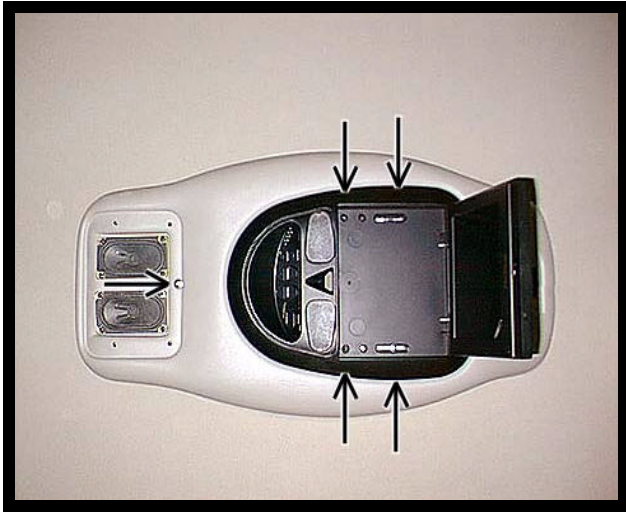

FIGURE 7
15. Insert video system into opening in console. **Note: Make sure wires do not get pinched between video system and console.** Align holes in housing with clips in mounting bracket. Secure using (4) four 6-32 x 3/4" screws (item 2 pg 2) and (4) four 3.5 mm washers (item 3 pg 2). See Figure 7.